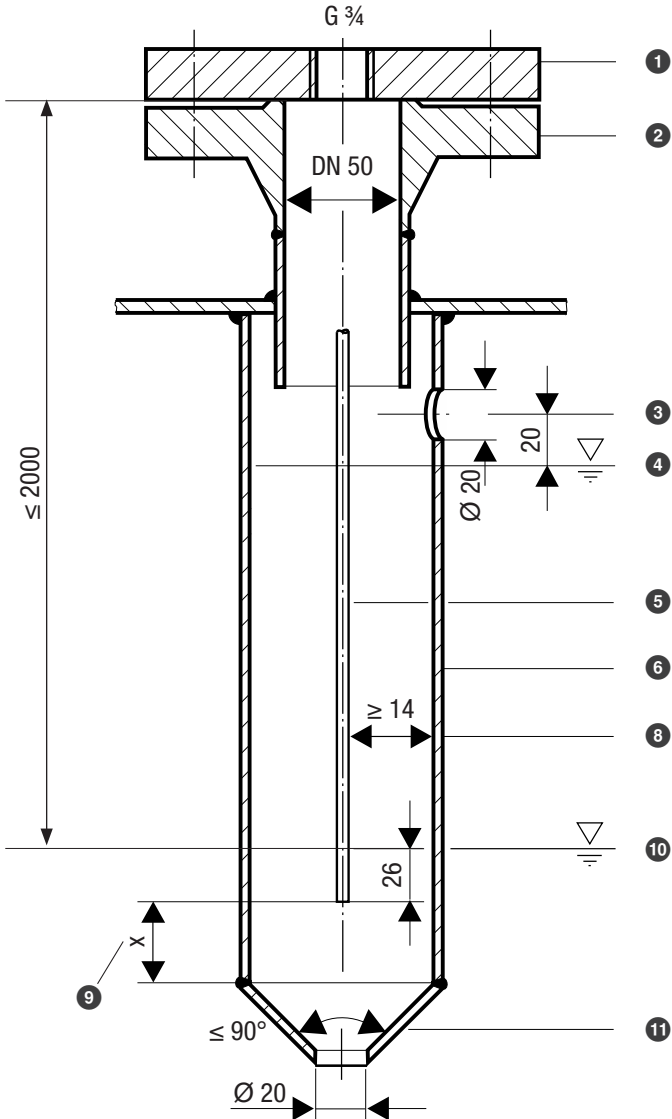

Fig. 9
- Pay attention to the minimum clearances when installing the level electrode, see installation examples in Fig. 9 to Fig. 13.
Installation example with dimensions, see Fig 9, page 27
Key, Fig. 9 to Fig. 12
- 1 Fig. 9, 10: Flange (PN 40, DN 50) EN 1092-01 (single electrode)